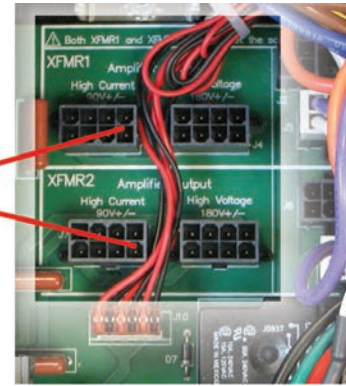

Figure 5.10 – Location of Amplifier High-Voltage Transformer Sockets
1. Locate the two XFMR sections (left of Line Voltage sections) (see **Figure 5.10**).